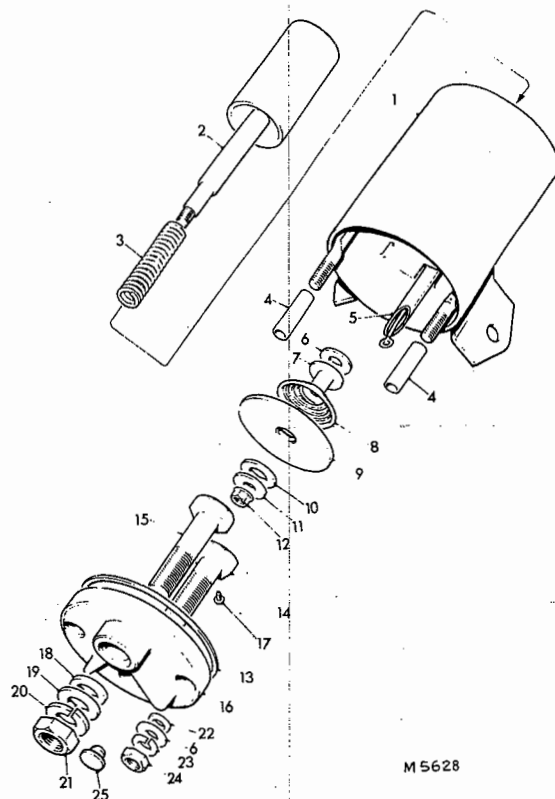

FIG. 10. SOLENOID SWITCH ASSEMBLY
1. Disconnect jumper lead from solenoid terminal (4).
2. Unscrew nut (1) on motor field terminal, securing locknut beneath jumper (4) to prevent stud from turning. Remove jumpers after unscrewing switch terminal nut.
3. Remove rubber plug (25) Fig. 10, to gain access to timing shaft.
#### To Dismantle, Fig. 10